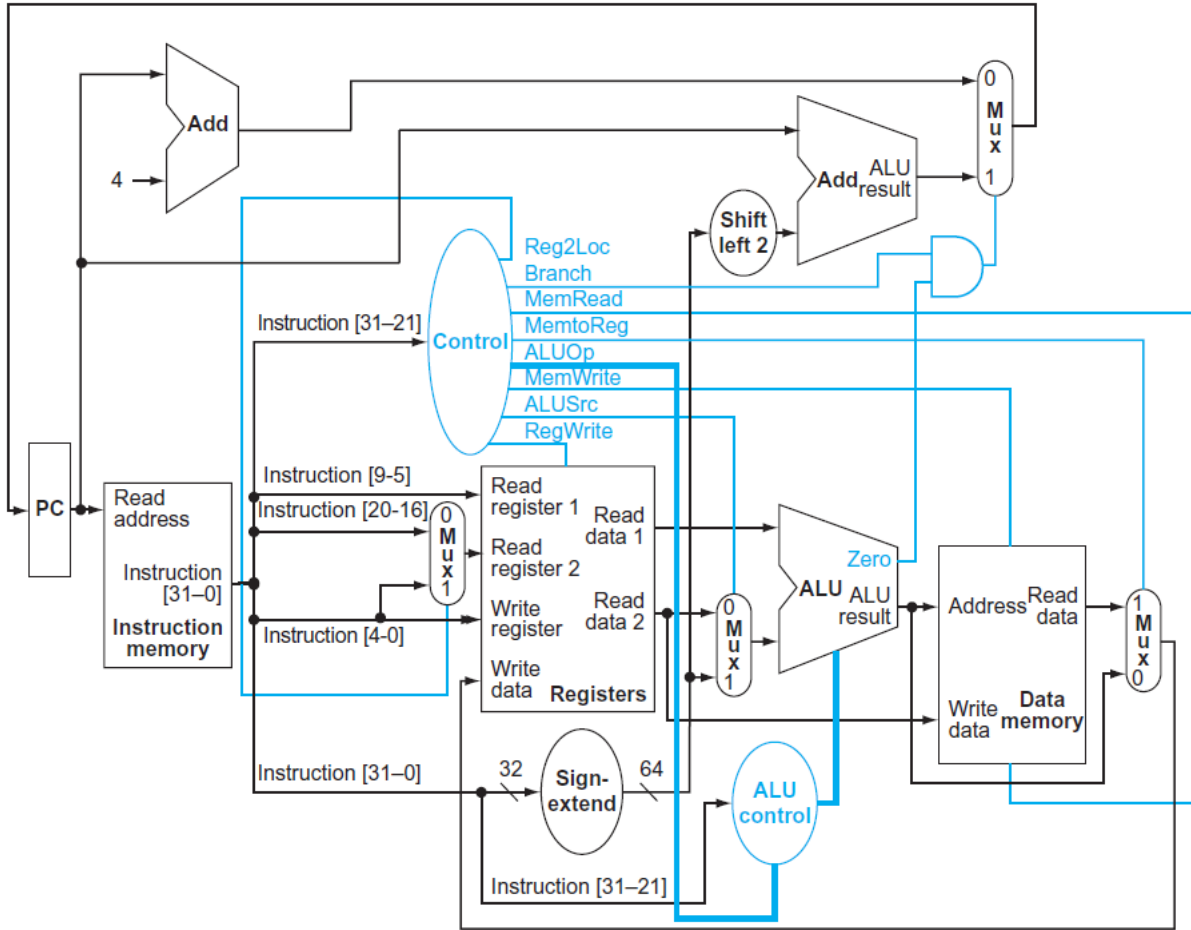

Figure 1: The single-cycle LEGv8 datapath.
The single-cycle LEGv8 datapath is shown in Fig. 1 below. The encoding of each LEGv8 instruction is listed in Table 1. The arithmetic and logic unit (ALU) control logic is shown in Table 2. The instruction control logic is shown in Table 3. The translation from instruction opcode to ALU control input is shown in Table 4.
1. For the LEGv8 instruction **LDUR x10, #100**, refer to Figure 1 and tables 1-4 and answer the following questions:
d. On the diagram in Figure 1 below, highlight the active datapath used by this instruction.
2. Examine the difficulty of adding a proposed **LWI Rd, Rm(Rn)** “Load With Increment” instruction to the LEGv8 datapath shown in Fig. 1.
3. If we were to translate the datapath in Fig. 1 to a pipelined datapath: